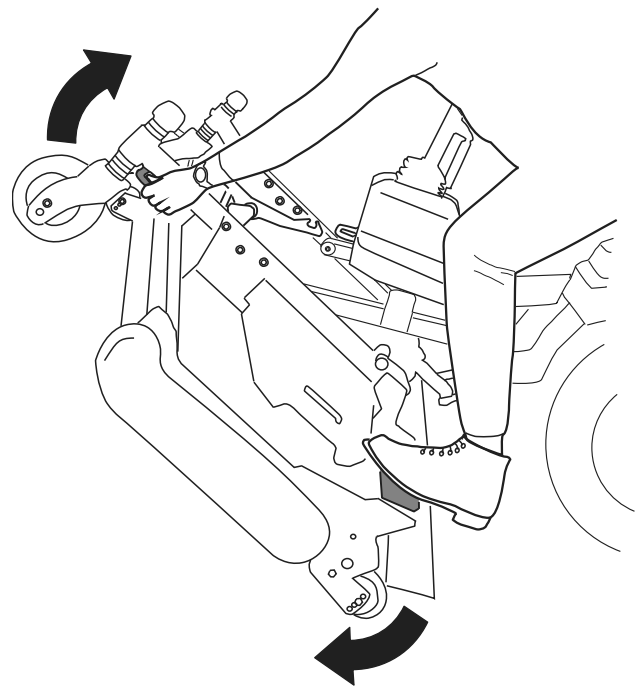
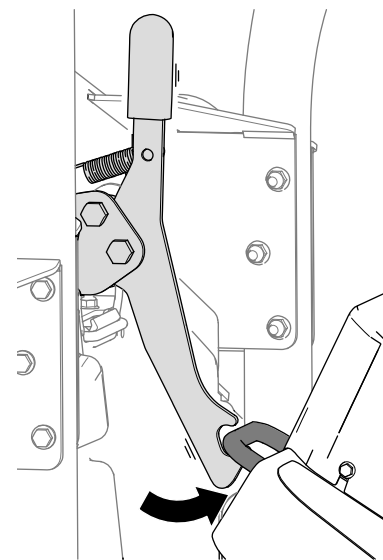
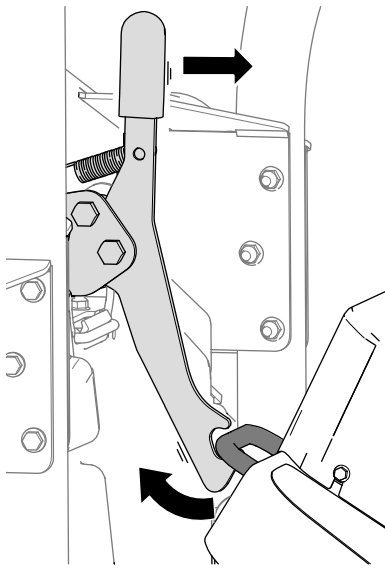

Figure 39
Figure 40
Figure 41
5. Rotate the cutting unit (Figure 39) so that the latch engages with the tie-down bracket (Figure 40).
1. Release the cutting-unit latch from the tie-down bracket (Figure 41) by rotating the cutting unit slightly forward (refer to Figure 39) and pulling the latch handle forward.